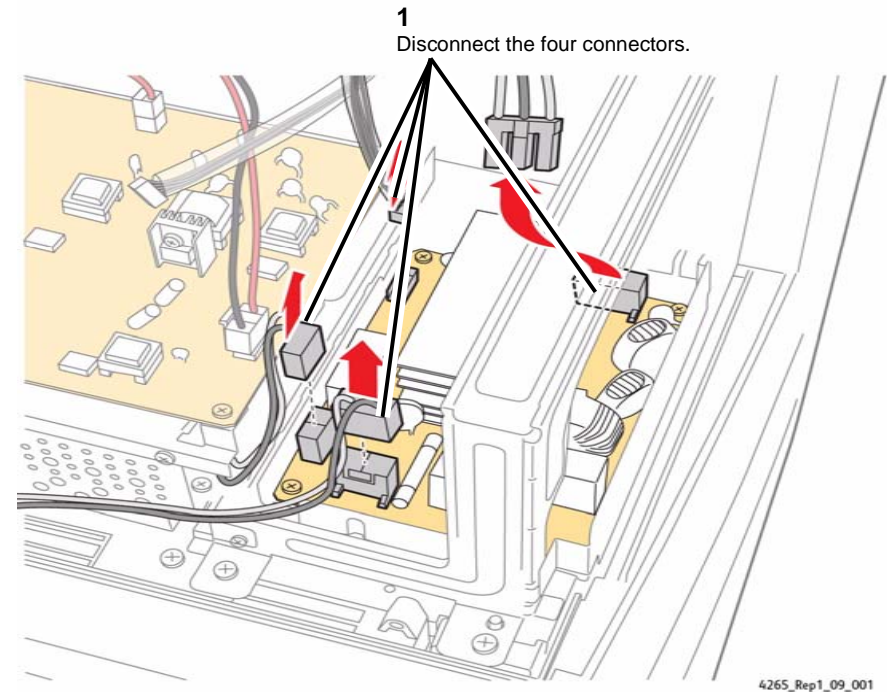

Figure 1 Disconnecting the Connectors
4. Disconnect the four connectors on the Power Supply Unit 2 (Figure 1).